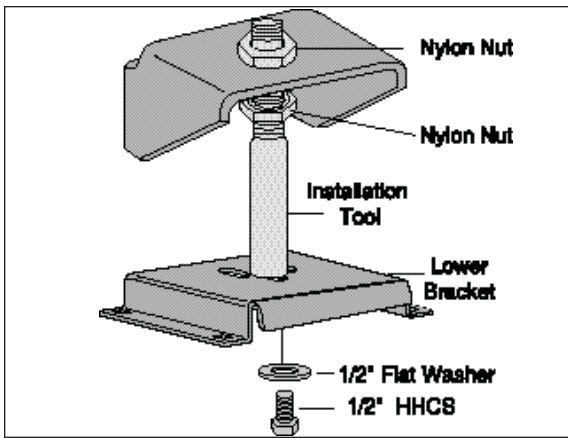

Figure 4
1. Secure the upper bracket (A) to the installation tool (M) using the provided nylon nut (L) (Figure 4).
2. Loosely attach the tool to the lower bracket (B) using $\frac{1}{2}$ " flat washer (K) and $\frac{1}{2}$ " bolt (J). Refer to Figure 4. Leave loose for adjustment.